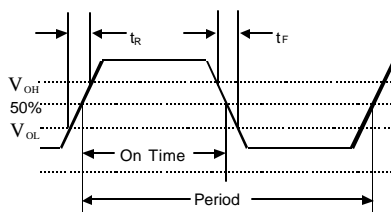
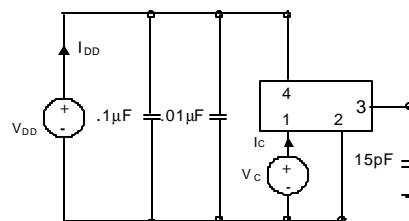

Figure 3. Output Waveform
Figure 4. Typical Output Test Conditions (25±5°C)
2. Figure 3 defines these parameters. Figure 4 illustrates the operating conditions under which these parameters are tested and specified. For  $F_o > 90\text{MHz}$ , rise and fall time is measured 20 to 80%.